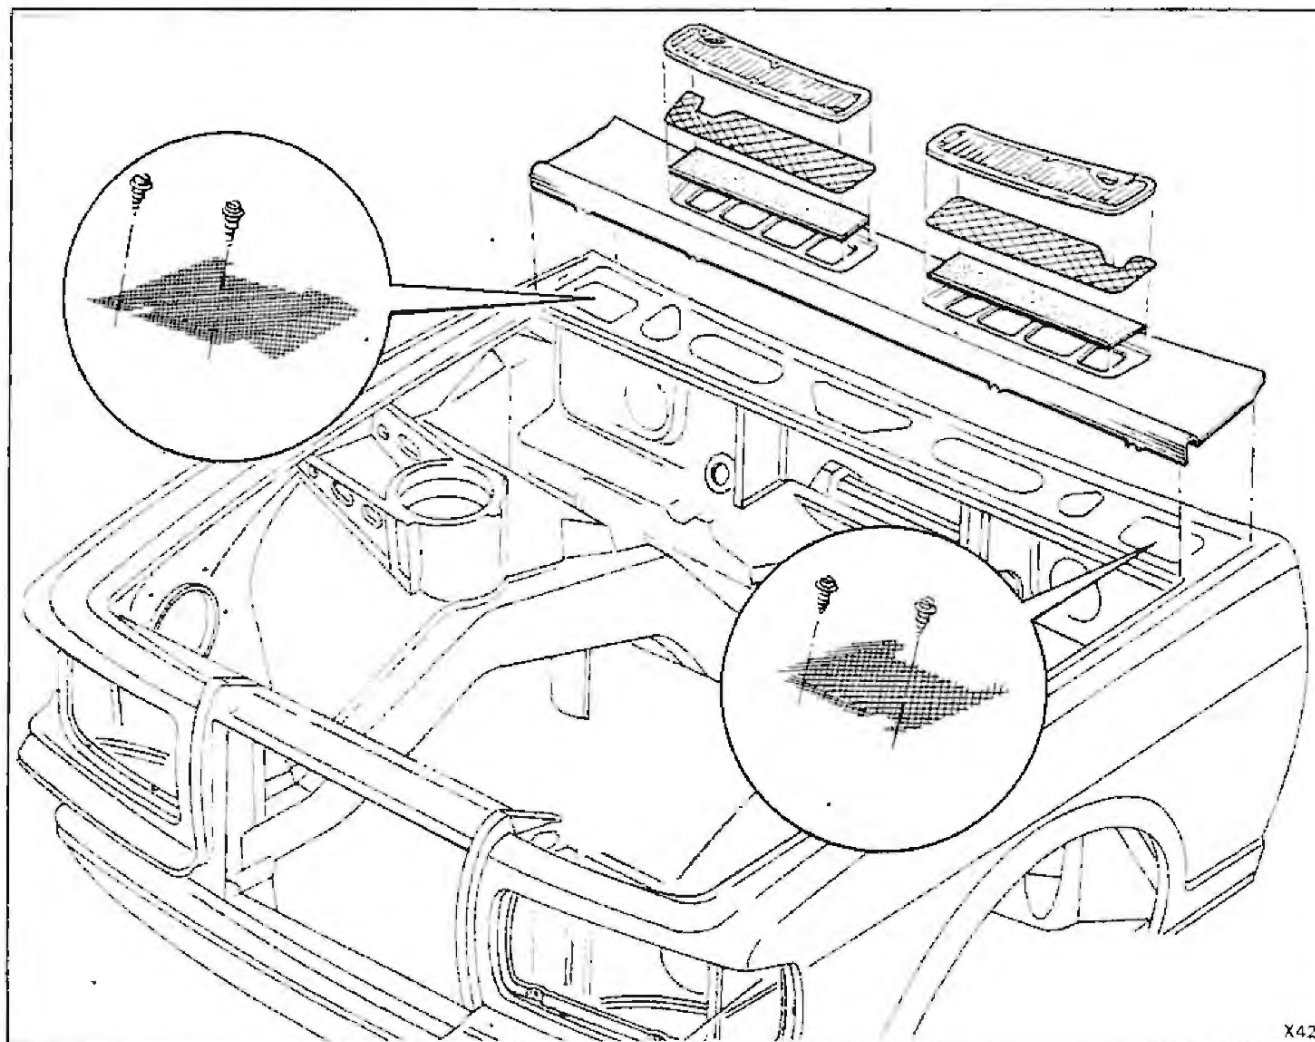

Fig. 3
7. Fit a set of filters over each reservoir and secure in position with two self-tapping screws as shown in figure 3.